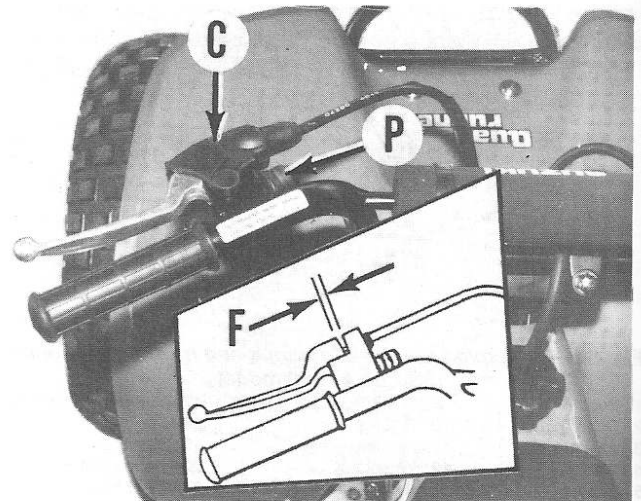
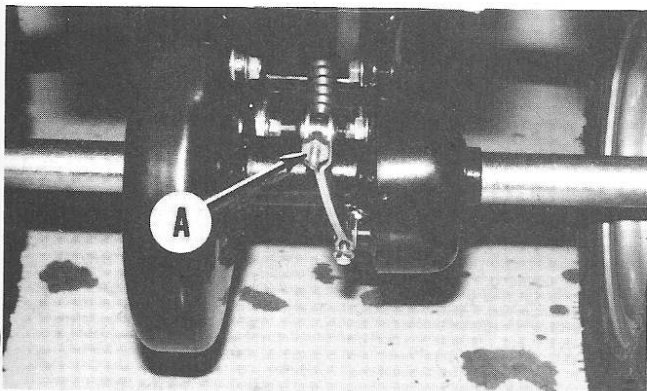

Fig. S1-14—Brake lever free play measured at (F) should be 5 mm (0.2 in.). Refer to Fig. S1-11 for adjustment location.
Fig. S1-15—Brake adjustment is accomplished by rotating adjuster (A) at rear of vehicle.
To check brake adjustment, remove protective cover (C—Fig. S1-14) from lever and measure brake lever free travel. Lever should have 5 mm (0.2 in.) of free travel between lever base and bracket as measured at (F) in inset. To adjust, rotate adjusting nut (A—Fig. S1-15) at rear brake as required.
To check parking brake operation, pull brake lever and engage brake lock button (P—Fig. S1-14). Try to detect any brake slippage by pushing back and forth on vehicle. Readjust brakes as required.